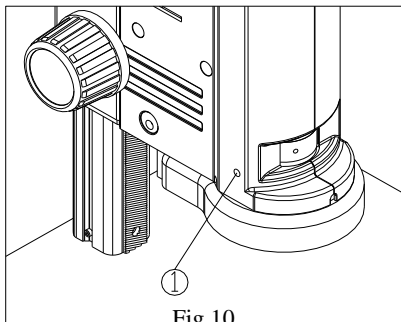

Fig.10
- 1) If use a fixed magnification for long term or use with shake, tighten and fix the magnification lock-screw① with a M4 inner hexagon spanner (side length 3mm). (See Fig. 10)